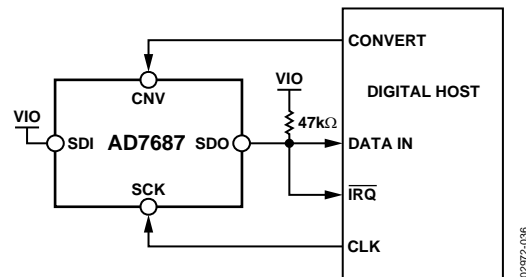
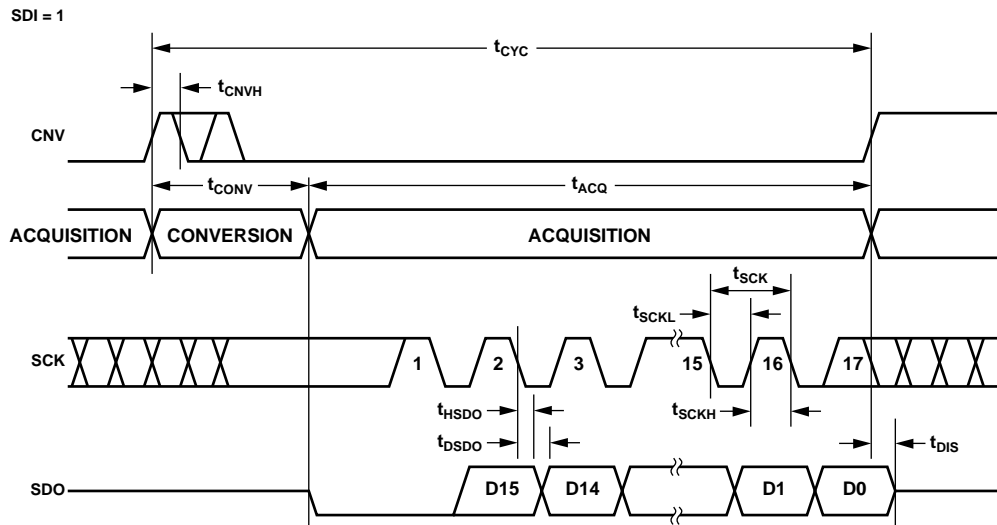
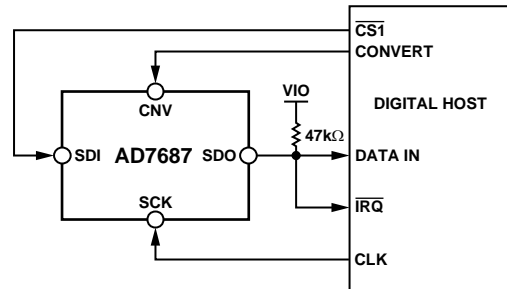
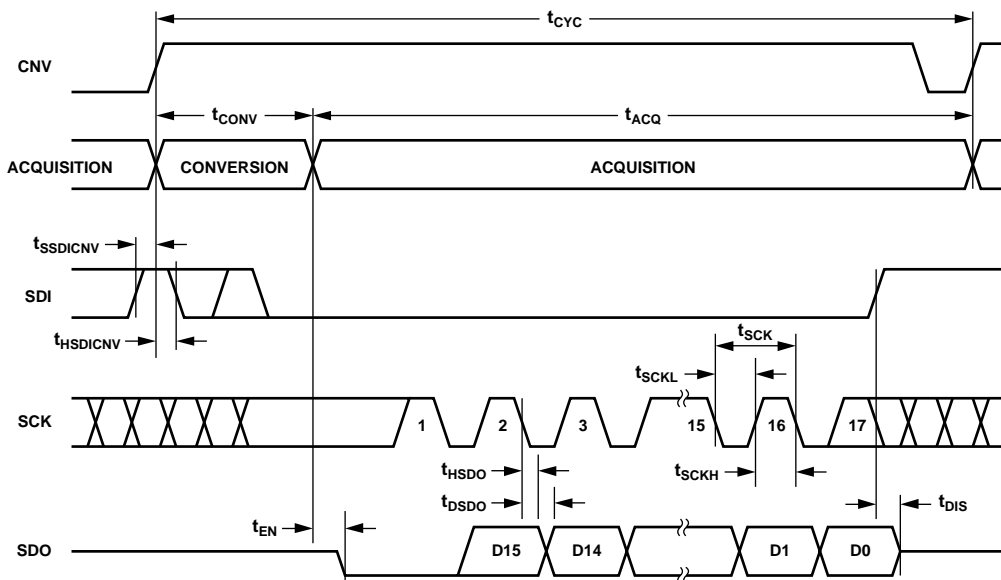

Figure 36.  $\overline{\text{CS}}$  Mode, 3-Wire with BUSY Indicator Connection Diagram (SDI High)
Figure 37.  $\overline{\text{CS}}$  Mode, 3-Wire with BUSY Indicator Serial Interface Timing (SDI High)
Figure 40. CS Mode, 4-Wire with BUSY Indicator Connection Diagram
Figure 41. CS Mode, 4-Wire with BUSY Indicator Serial Interface Timing
- In the  $\overline{CS}$  mode if  $\overline{CNV}$  or SDI is low when the ADC conversion ends (see Figure 37 and Figure 41).
Figure 36 shows the connection diagram and Figure 37 gives the corresponding timing.
Figure 40 shows the connection diagram and Figure 41 gives the corresponding timing.